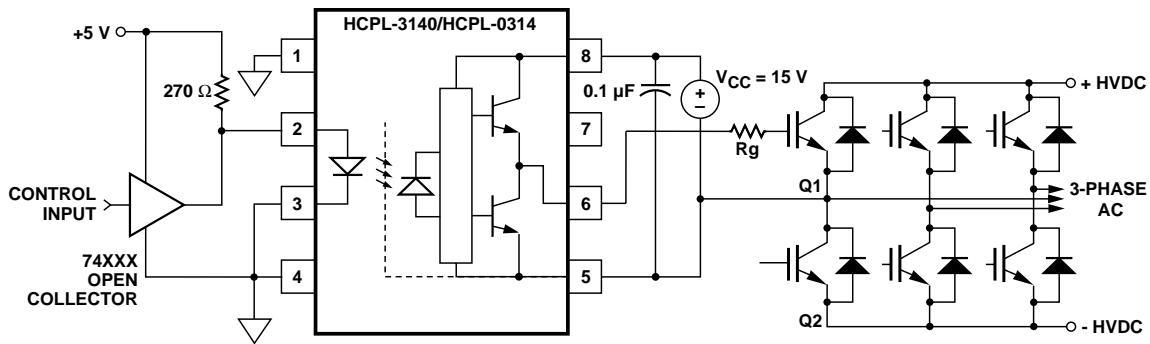
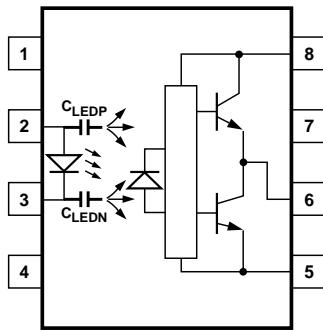
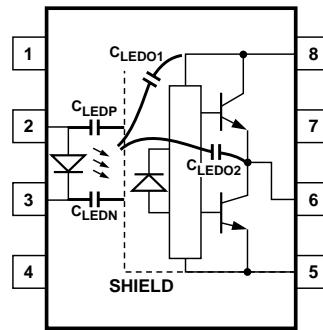

Figure 19. Recommended LED drive and application circuit for HCPL-3140/HCPL-0314.
Figure 21. Optocoupler input to output capacitance model for unshielded optocouplers.
Figure 22. Optocoupler input to output capacitance model for shielded optocouplers.
HCPL-3140/HCPL-0314 on a small PC board directly above the IGBT) can eliminate the need for negative IGBT gate drive in many applications as shown in Figure 19. Care should be taken with such a PC board design to avoid routing the IGBT collector or emitter traces close to the HCPL-3140/HCPL-0314 input as this can result in unwanted
**Step 1:** Calculate  $R_g$  minimum from the  $I_{OL}$  peak specification. The IGBT and  $R_g$  in Figure 19 can be analyzed as a simple RC circuit with a voltage supplied by the HCPL-3140/HCPL-0314.
where  $K_{ICC} \bullet Qg \bullet f$  is the increase in  $I_{CC}$  due to switching and  $K_{ICC}$  is a constant of 0.001 mA/(nC\*kHz). For the circuit in Figure 19 with  $I_F$  (worst case) = 10 mA,  $R_g$  = 32 Ω, Max Duty Cycle = 80%,  $Qg$  = 100 nC,  $f$  = 20 kHz and  $T_{AMAX}$  = 85°C:
Without a detector shield, the dominant cause of optocoupler CMR failure is capacitive coupling from the input side of the optocoupler, through the package, to the detector IC as shown in Figure 21. The HCPL-3140/HCPL-0314 improves CMR performance by using a detector IC with an optically transparent Faraday shield, which diverts the capacitively coupled current away from the sensitive IC circuitry. However, this shield does not eliminate the capacitive coupling between the LED and opto-coupler pins 5-8 as shown in Figure 22. This capacitive coupling causes perturbations in the LED current during common mode transients and becomes the major source of CMR failures for a shielded optocoupler. The main design objective of a high CMR LED drive circuit becomes keeping the LED in the proper state (on or off) during common mode transients. For example, the recommended application circuit (Figure 19), can achieve 10 kV/μs CMR while minimizing component complexity.
supplied by the LED, and it is not recommended for applications requiring ultra high CMR1 performance. The alternative drive circuit which like the recommended application circuit (Figure 19), does achieve ultra high CMR performance by shunting the LED in the off state.